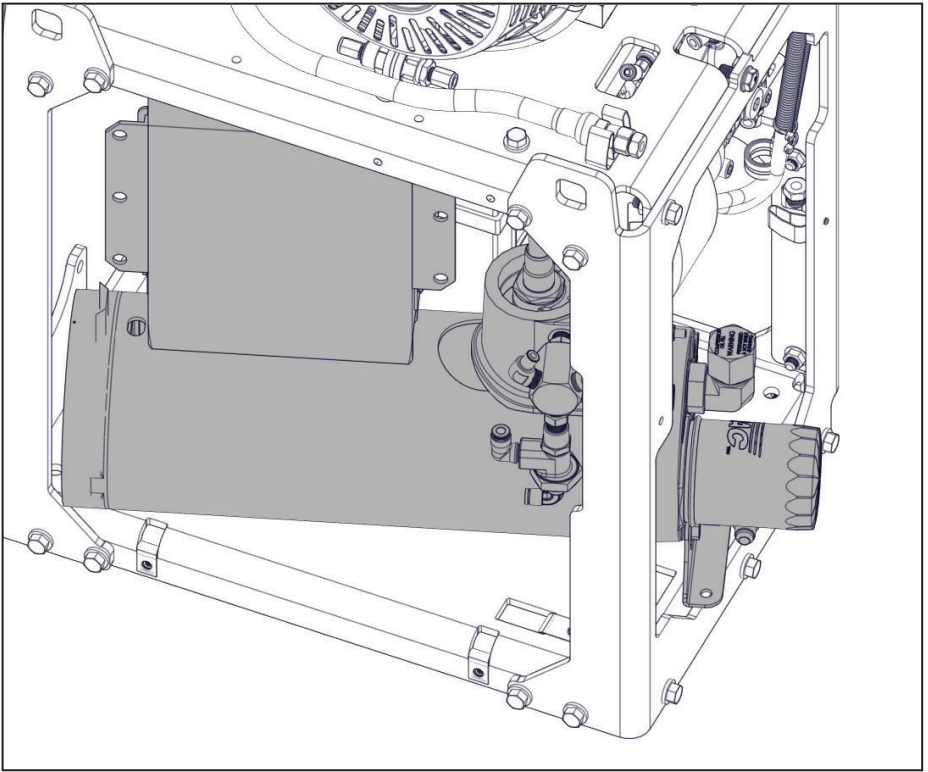

Figure 75 — Remove WHASP Tank
- Shift the WHASP Tank forward and rotate the rear of the tank out of the frame (Figure 75).